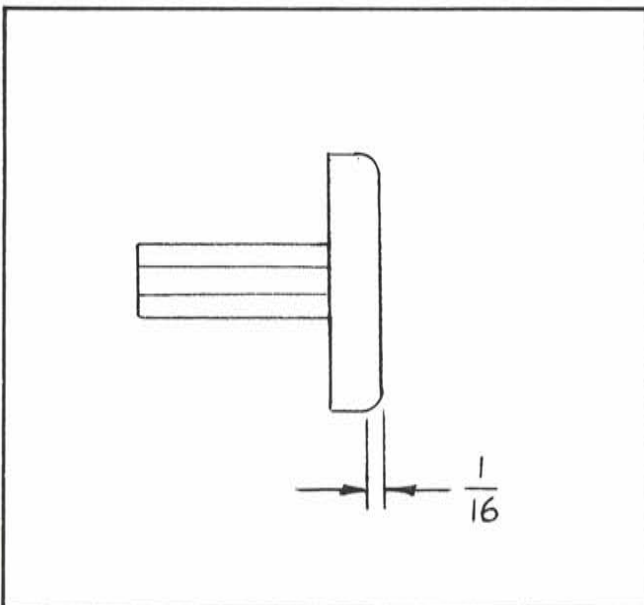

Fig 4
1. Remove drive cover, inspect sliding shoes. If they are worn below $1/16''$ remove and replace. (Fig 4)